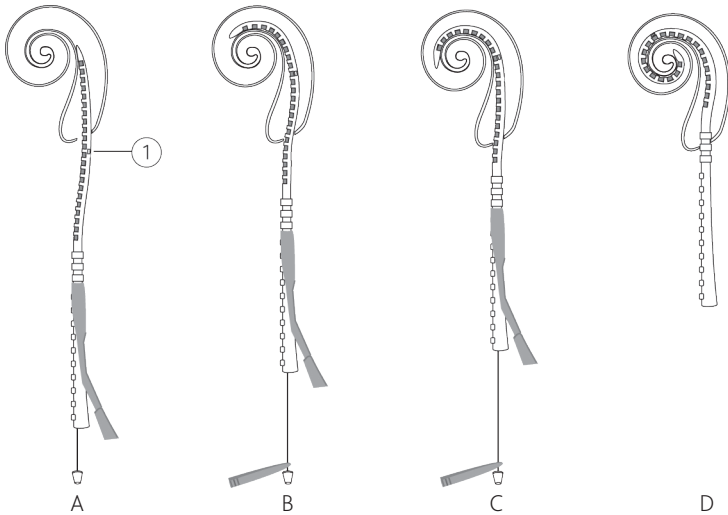

Figure 8: AOS Insertion (white marker (1) 7.6 mm from tip, at cochleostomy)
4. Insert the electrode until the white marker (7.6 mm from tip) is at the cochleostomy. Refer to *Figure 8* on page 45.
5. Hold the stylet stationary with jeweller's forceps and hold the electrode at the ribs with AOS forceps. Advance the electrode off the stylet and into the cochlea until the third (most proximal) rib is at the cochleostomy (B, C and D) in *Figure 8* on page 45.